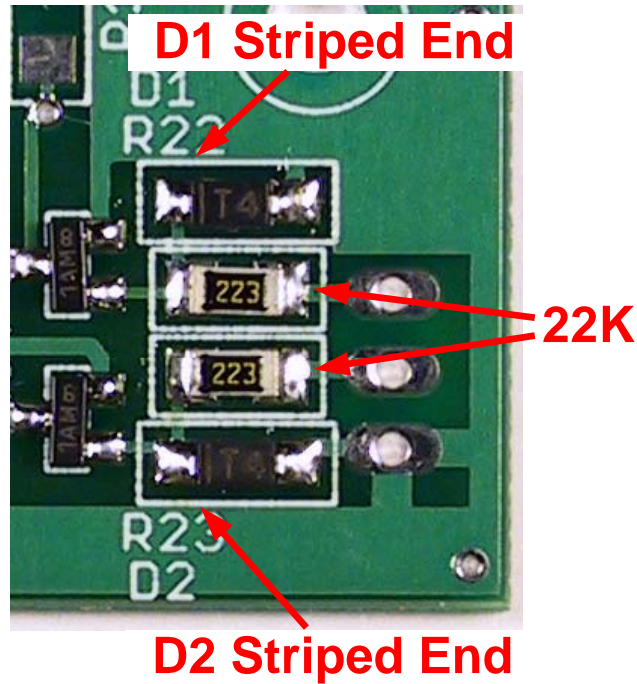

Figure 9. D1, D2, R22, R23 Locations
- Remove the strip of 22K resistors from the resistor compartment. These are marked 223. Refer to **Figure 9**. Install them at:
- Remove the strip of 1N4148 diodes from the active components compartment. These are marked T4. Refer to **Figure 9**. The striped ends are closest to Q1 and Q2. Install them at: